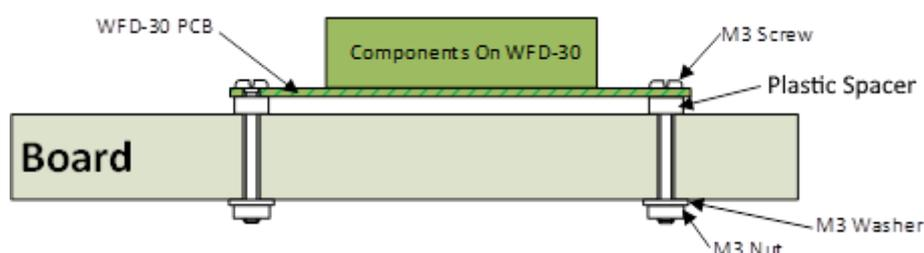

Figure 90 Mounting the WFD-30 on a board
- (1) Use the mounting kit to attach the module to your baseboard or fascia, as in Figure 90, either on top or underneath in such a way as to avoid anything being placed on it or against it.
- (2) Mount the module inside a suitable plastic box with holes cut to accommodate the RJ12 connectors.